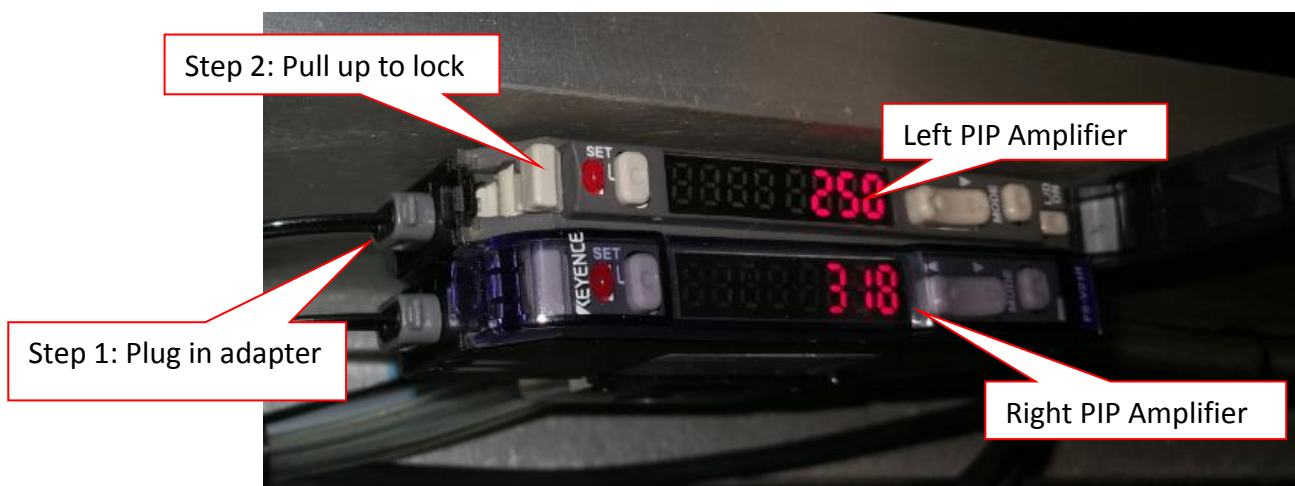

Figure 17 PIP Sensor Amplifier
9. Plug adapter to Left Amplifier & lock as shown in Figure 17